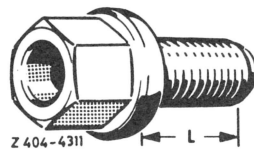

Fig. 1
The ornamental wheel cover (5) is attached to the disc wheel by means of four retaining springs (4) (Fig. 1).